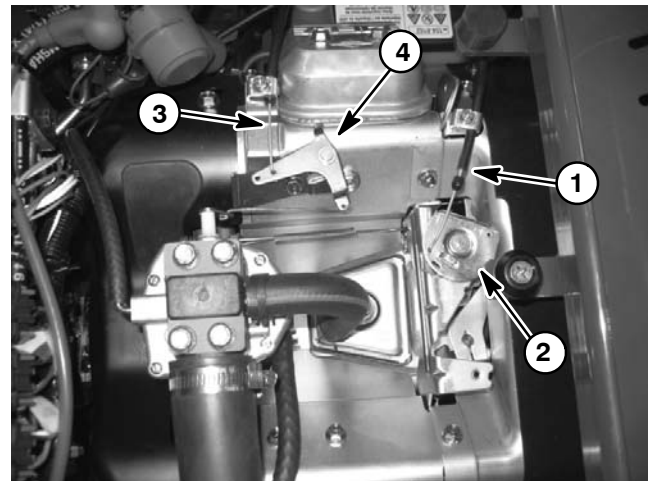

Figure 11
13. Disconnect throttle control cable from the governor control plate and choke control cable from the choke lever (Fig. 11).
5. Connect throttle control cable to the governor control plate and choke control cable to the choke lever (Fig. 11).